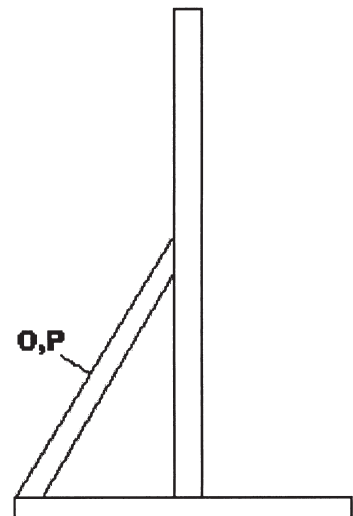

Figure 7
33. Weld end of O that's 60 degrees to M. (see Fig. 7)
34. Weld end of O that's 30 degrees to Frame. (see Fig. 7)
35. Weld end of P that's 60 degrees to N. (see Fig. 7)
36. Weld end of P that's 30 degrees to Frame. (see Fig. 7)